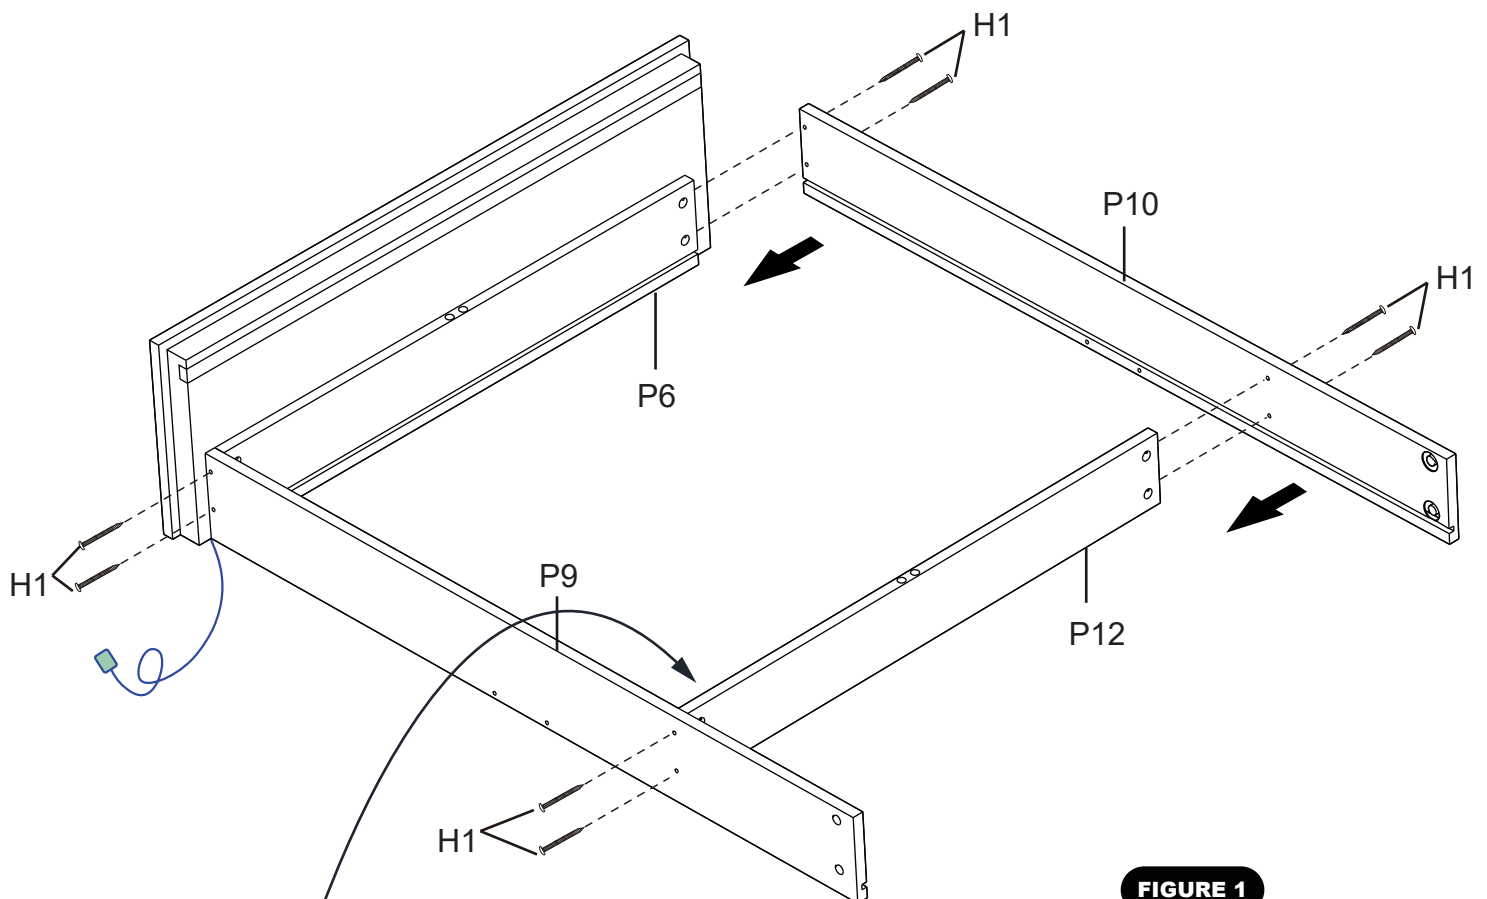

FIGURE 1
1. Attach Cover Plate - Top **P6**, Upper Side Panel - Left **P9** and Upper Layer Board **P12**, use Phillips Round Head Screw **H1** as shown in **Figure 1**.
2. Then attach Upper Side Panel - Right **P10**, use Phillips Round Head Screw **H1** as shown in **Figure 1**.